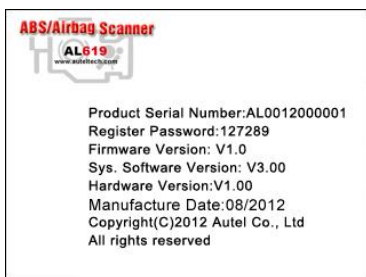

Figure 3.7
- 2) View tool information on screen. (Figure 3.7) Press the **ESC** button to exit without saving.